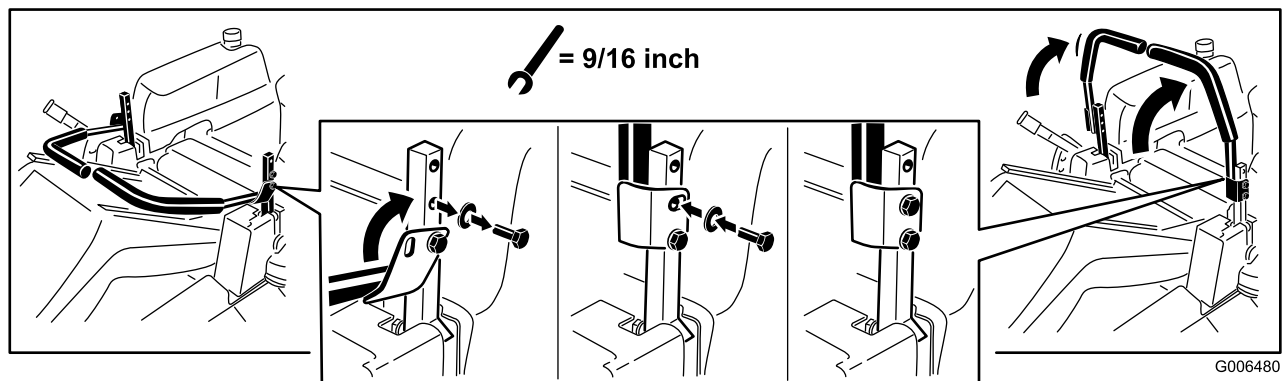

Figure 3
1. Remove the upper bolt ($3/8 \times 1$ inch) and washer; loosen the lower bolt ($3/8 \times 1$ inch) as shown in Figure 3. Raise the motion control levers.
2. Align the holes in the motion control lever with the holes in the control arm shaft and install the bolt and washer removed previously (Figure 3). Hand tighten all fasteners. Repeat this for both controls levers.